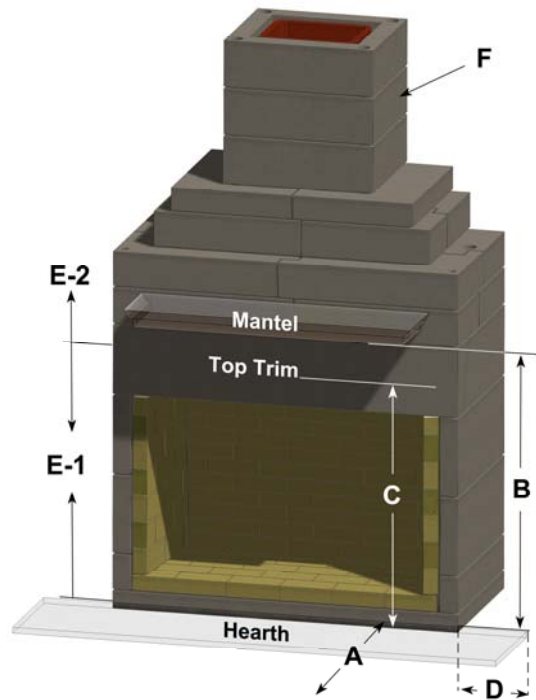

Figure 3. Clearances (Use with Table 2)
**Table 2: Clearances (See Figure 3)
Select a wall location in the home plans where all the minimum distances, as shown in Table 2 and Figure 3 can be met. Proceed as follows. Numbers in ( ) are item numbers from Table 1 and Figure 2. Ensure the base on which the fireplace is to be installed is a solid and level foundation and is composed of non-combustible material, such as concrete.
O. Install the hearth and or hearth extension. Ensure the Table 2 and Figure 3 clearances and distances are maintained. Ensure that the hearth and flooring under and in front of the hearth are made of fully non-combustible materials, not just a non-combustible floor covering. When the hearth installation is complete, you are now ready to install the exterior.